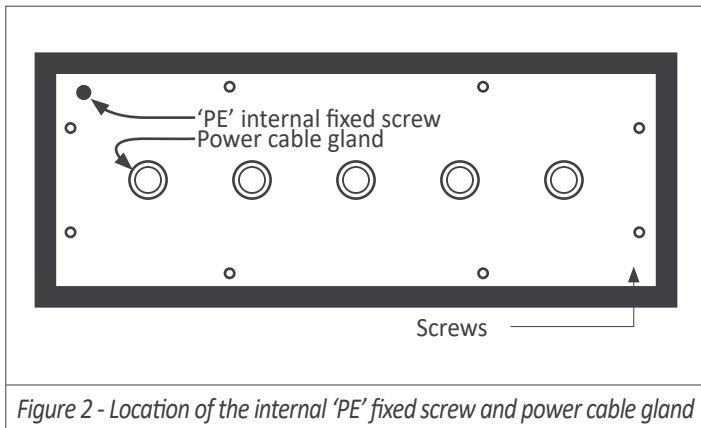

Figure 2 - Location of the internal 'PE' fixed screw and power cable gland
4. Connect the earth wire to the internal fixed screw 'PE' (see Figure 2) located at the inside of the back cover. The instrument internally connects the back cover metallic